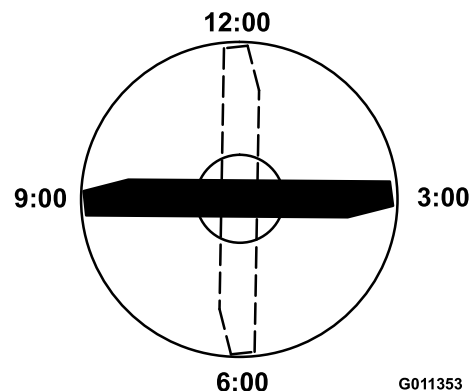

Figure 127
4. Position the cutting edge of the marked end of the blade at 12 o'clock (straight ahead in the direction of mowing) (Figure 127) and measure height from table to cutting edge of blade.
5. Rotate the marked end of the blade to the 3 and 9 o'clock positions (Figure 127) and measure the heights.